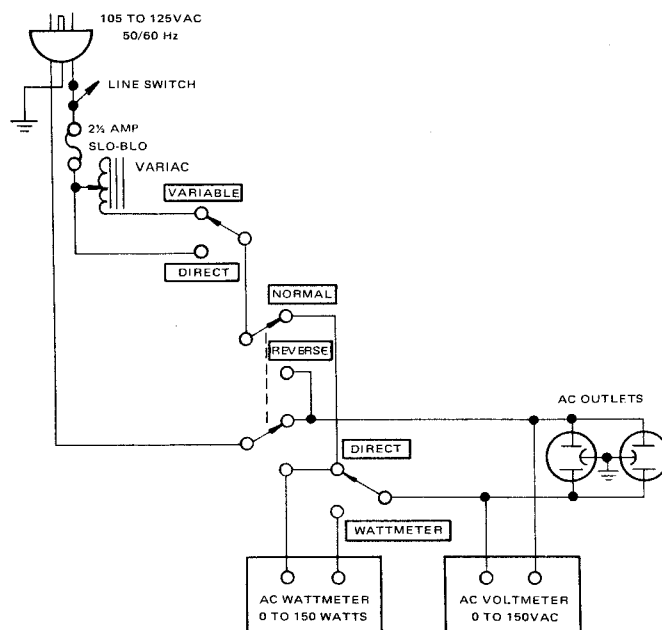
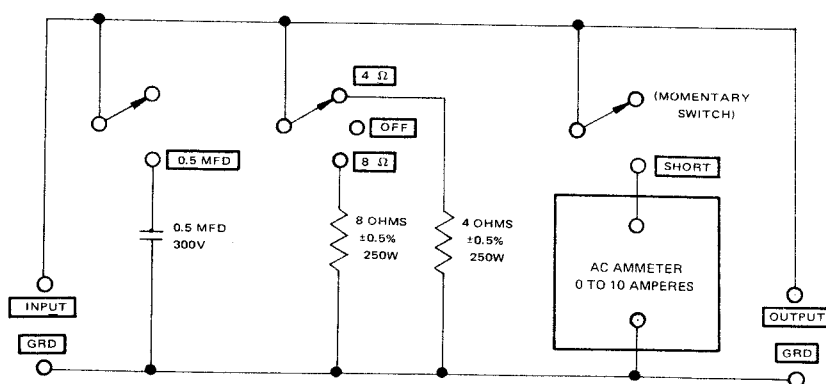

Figure 1. AC Power Control Box Simplified Schematic
Figure 2. Amplifier Output Load Box Simplified Schematic
Table 1 lists the test equipment required for servicing the Model 1070 Stereo Console Amplifier. The wattmeter, ac voltmeter, and variable autotransformer may be assembled as a test fixture as shown schematically in Figure 1. The load resistors and ac ammeter may be assembled into a second test fixture as shown in Figure 2.
1. Make the test setup shown in Figure 1 with the instrument controls set in the following positions: